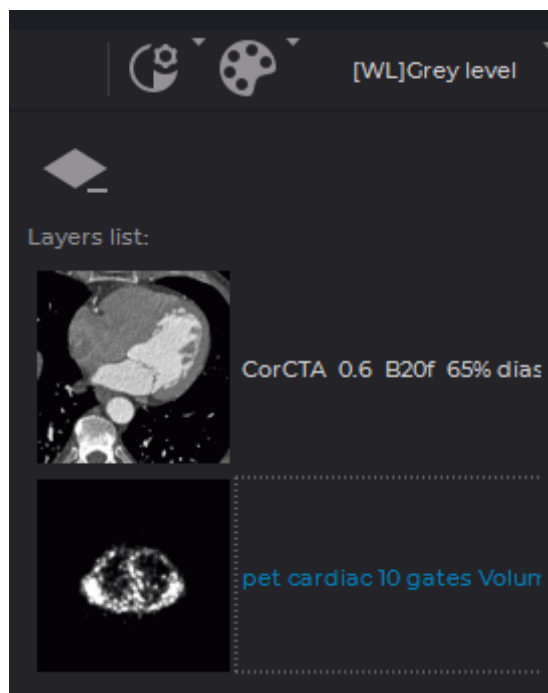

Figure 4.1: Slice list
7. Drag the series to the **Series fusion** tab. The second series will be added to the slice list (Fig. 4.1).